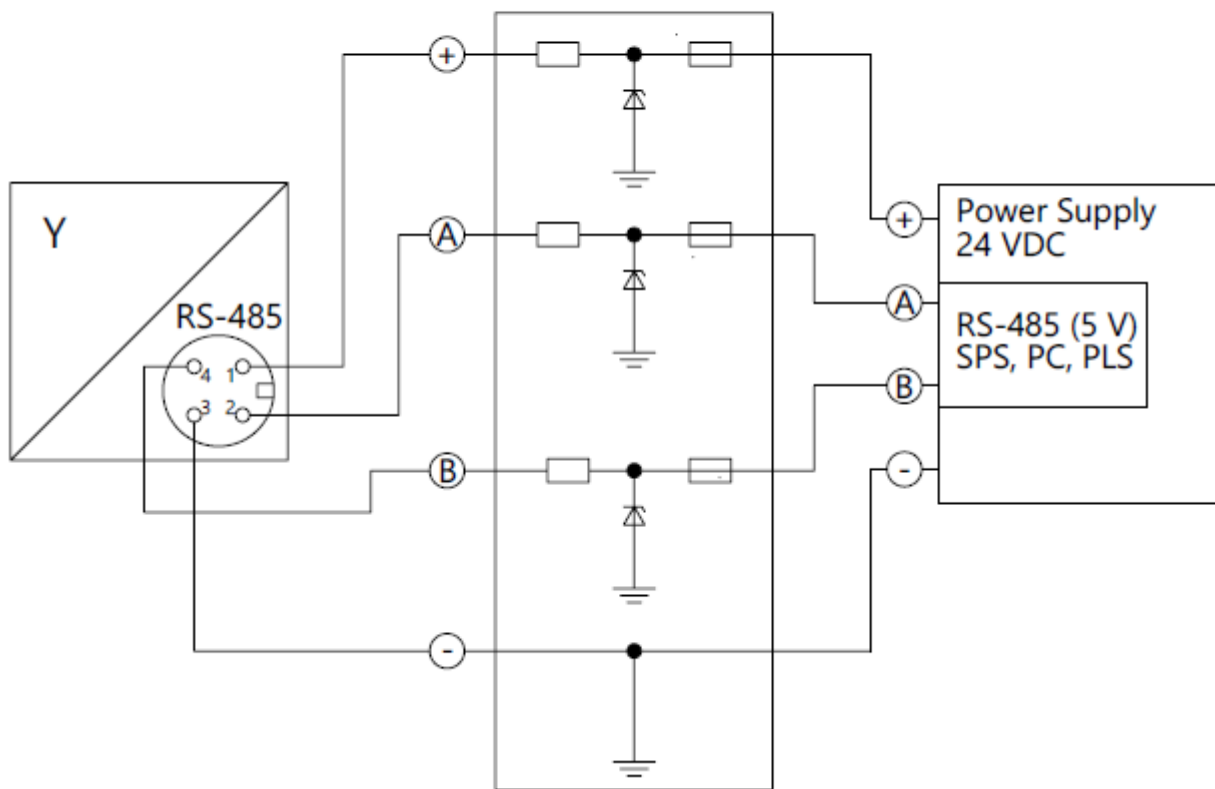

Figure 3: Wiring diagram SB 3
- (2) Lift off the cover ①
- (3) Connect the probe (intrinsically safe) according to the connection diagram (see Figure 3) and pay attention to the polarity
- (4) The outer potential equalization terminal must be connected to the equipotential bonding